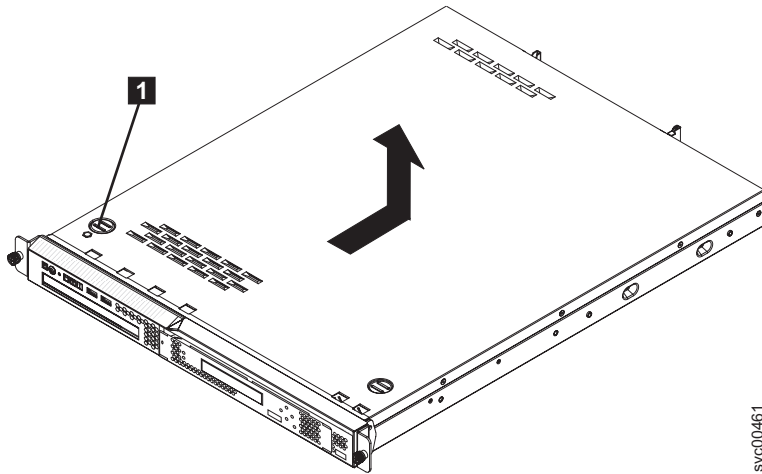

Figure 65. Removing the SAN Volume Controller 2145-8A4 cover
2. Press the cover-release button **1**, which is shown in Figure 65 on page 83.